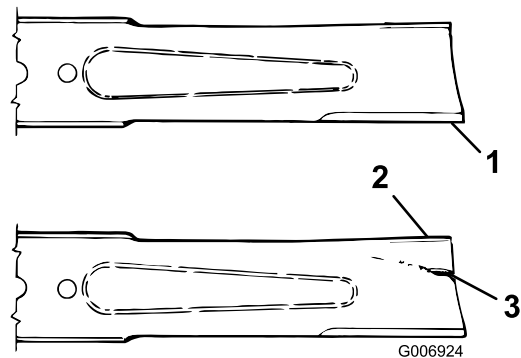

Figure 75
3. Examine the cutting ends of the blade carefully, especially where the flat and curved parts of the blade meet (Figure 75).
4. If wear is noticed (Figure 75), replace the blade; refer to Inspecting the Blade Plane \(page 69\).
If the blade is allowed to wear, a slot will form between the sail and flat part of the blade (Figure 75). Eventually a piece of the blade may break off and be thrown from under the housing, possibly resulting in serious injury to yourself or bystanders.